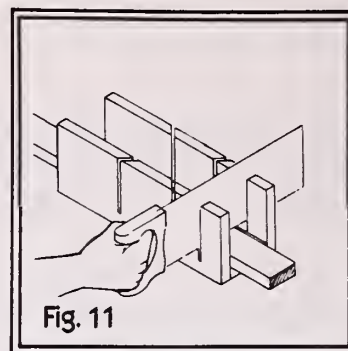

Fig. 11
2. Place the board in the miter box with the hand saw placed at the 90 degree miter (fig. 11). Make the cut just slightly to the outside of the cut line.
10. Place the riser first by putting it in its location under the nosing of the upper tread and against the cutout of the stringers (fig. 9). Now nail the riser into place by face-nailing it to the stringers (fig. 10). Then nail the upper tread down on the riser (fig. 11). Space the nails the same as the old nail spacing, or approximately 6 inches apart.